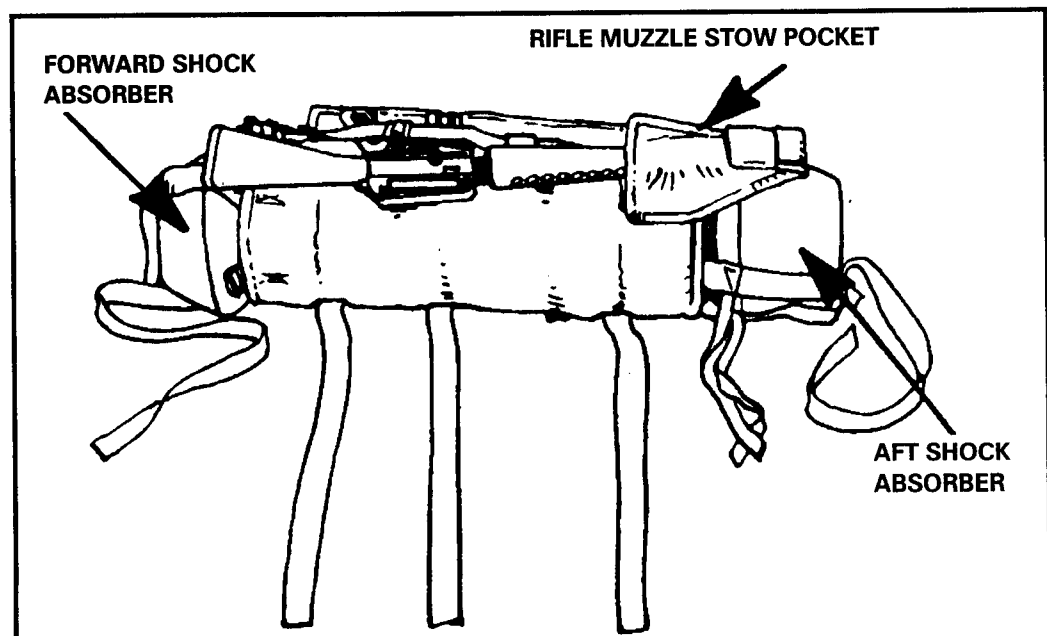

Figure 12-32. Rifle positioned.
- (1) Insert a 20-round magazine into the magazine well (optional).
- (2) Secure a 30-round magazine to the weapon sling, using adhesive tape (optional).
- (3) Position the rifle on top of the pack, on top of the missile biped, by inserting the rifle muzzle into the rifle muzzle stow pocket. The butt of the rifle pistol grip lies along the inner edge of the jump pack (Figures 12-32, page 12-38, and 12-33, page 12-39).